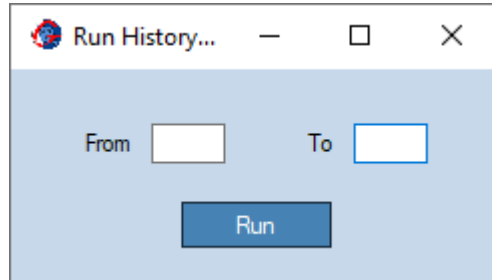

Figure 5: *Geo Meshing History – Run, define range dialog window.*
- **Run:** This option runs a series of events defined by a range. Figure 5 shows the dialog windows for defining the range. *From* and *To* are the numbers shown in the Geo Meshing v4.3 history windows. Before using this option, select an event in the history window.